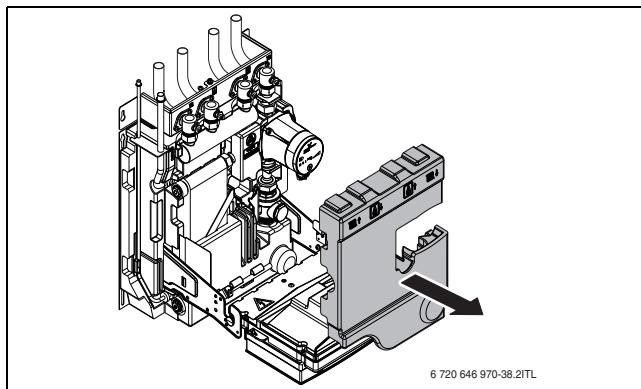

Fig. 55 Removing the top insulation panel
- Remove the front upper insulation (Fig. 55, Page 50) being careful not to misplace the small piece of insulation at the side of the pump.